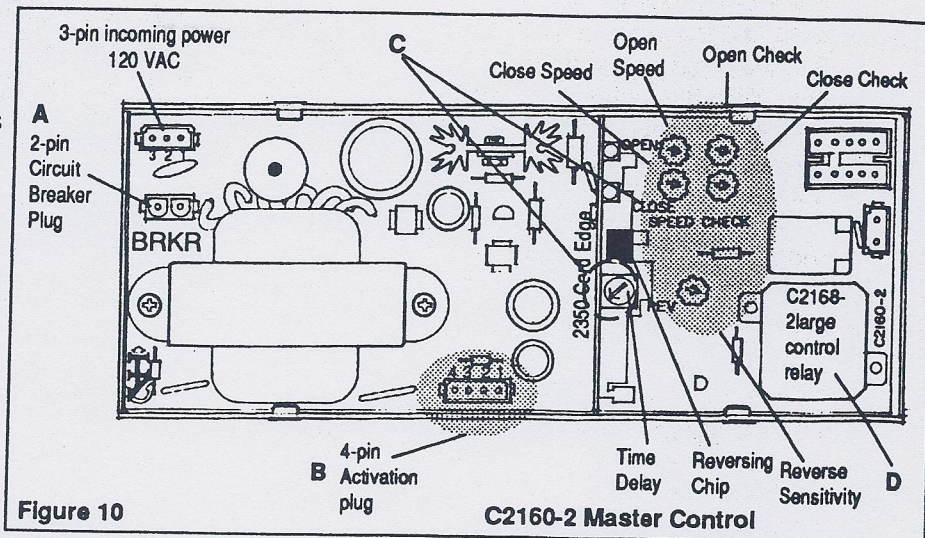

Figure 10
- 1) Check the 24 VAC circuit by measuring the voltage between pin 2 and 4 of the 4-pin plug (Figure 10, B).
- b. If power is present at pins 1 and 2 of the 3-pin incoming power plug on the C2160-2 master control, disconnect the circuit breaker from the 2-pin plug (Figure 10) marked BRKR on control board. Put meter in OHMS range and check breaker and breaker lace for continuity.
If the fault is not found in test III #1, a on PAGE 6, the problem is probably one of the control Potentiometers (Figure 10, C) causing the erratic action, i.e., closing speed Potentiometer, latch check Potentiometer. Actuate the door and check the opening action in the same manner.